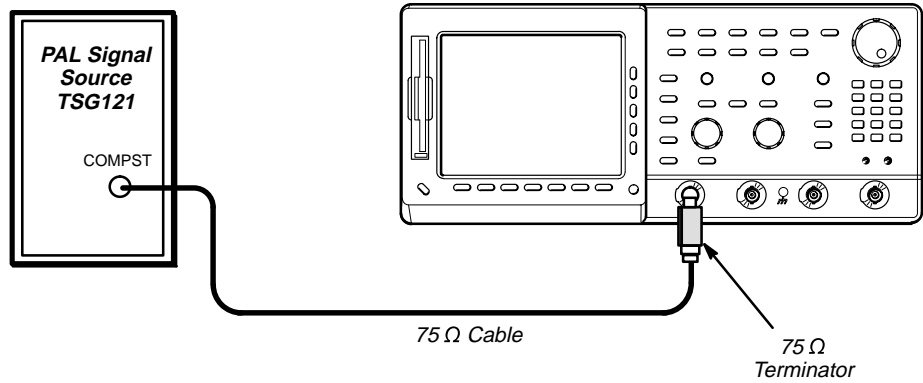

Figure 1-27: Jitter Test Hookup
a. Setup equipment for Jitter Test (See Figure 1-27).